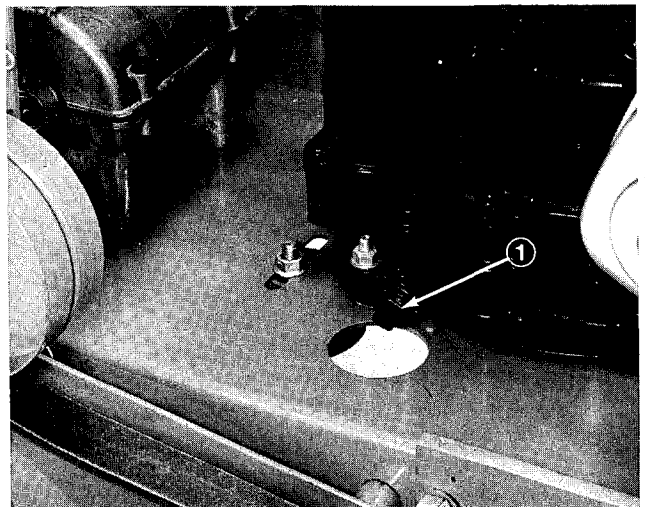

Figure 16
- B. Turn engine off and place drain pan under frame below drain plug (Fig. 16). Remove drain plug and allow all oil to flow into drain pan. Install drain plug after oil stops flowing.